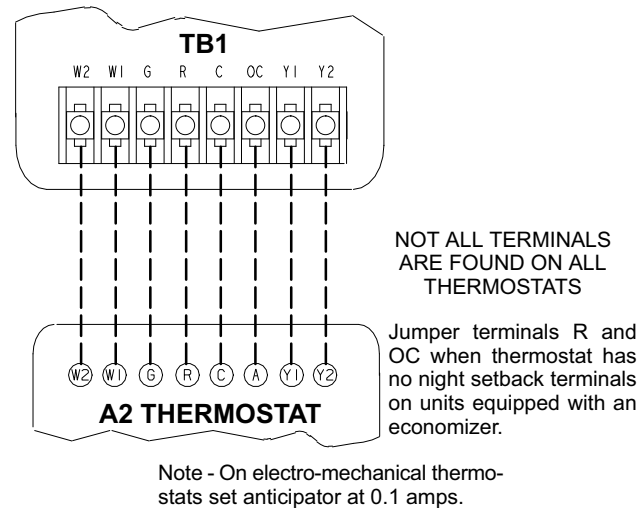

FIGURE 12
- 3- Connect thermostat wiring to TB1 terminal board on the lower side of the controls hat section. Wire as shown in figure 12 for electro-mechanical and electronic thermostats. If using other temperature control devices or energy management systems see instructions and wiring diagram provided by manufacturer.